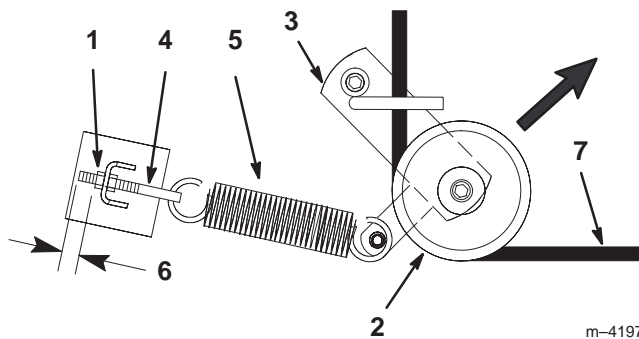
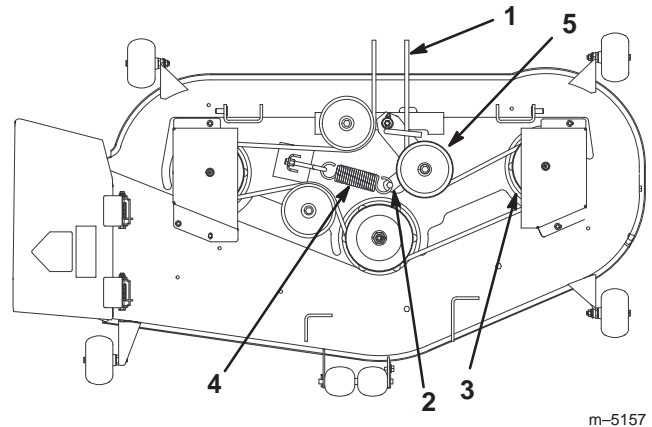

Figure 43
Figure 44
4. Pull the idler pulley in the direction shown in Figure 43 and roll the belt off of the pulleys.
5. Route the new belt through the idler arm and around the idler pulley (Fig. 43).
6. Pull the idler pulley in the direction shown in Figure 43 and route the belt onto the other pulleys (Fig. 44).
Note: Check to ensure that the length of exposed thread on the spring eye bolt is 1/8 in. (3 mm) (Fig. 43).